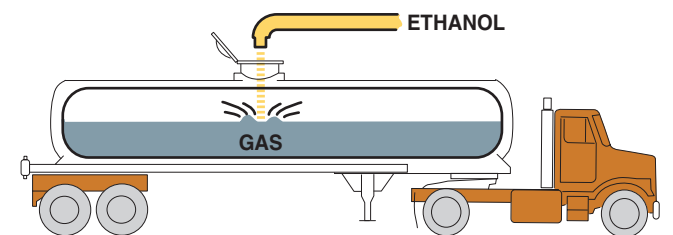

FIGURE 12-14 Splash blending occurs when the ethanol is added to a tanker with gasoline and is mixed as the truck travels to the retail outlet.
3. **Splash blending.** This method can be done at the retail outlet or distributor and involves separate purchases of ethanol and gasoline. In a typical case, a distributor can purchase gasoline, and then drive to another supplier and purchase ethanol. The ethanol is then added (splashed) into the tank of gasoline. This method is the least accurate method of blending and can result in ethanol concentration for E10 that should be 10% to range from 5% to over 20% in some cases. ● SEE FIGURE 12-14.